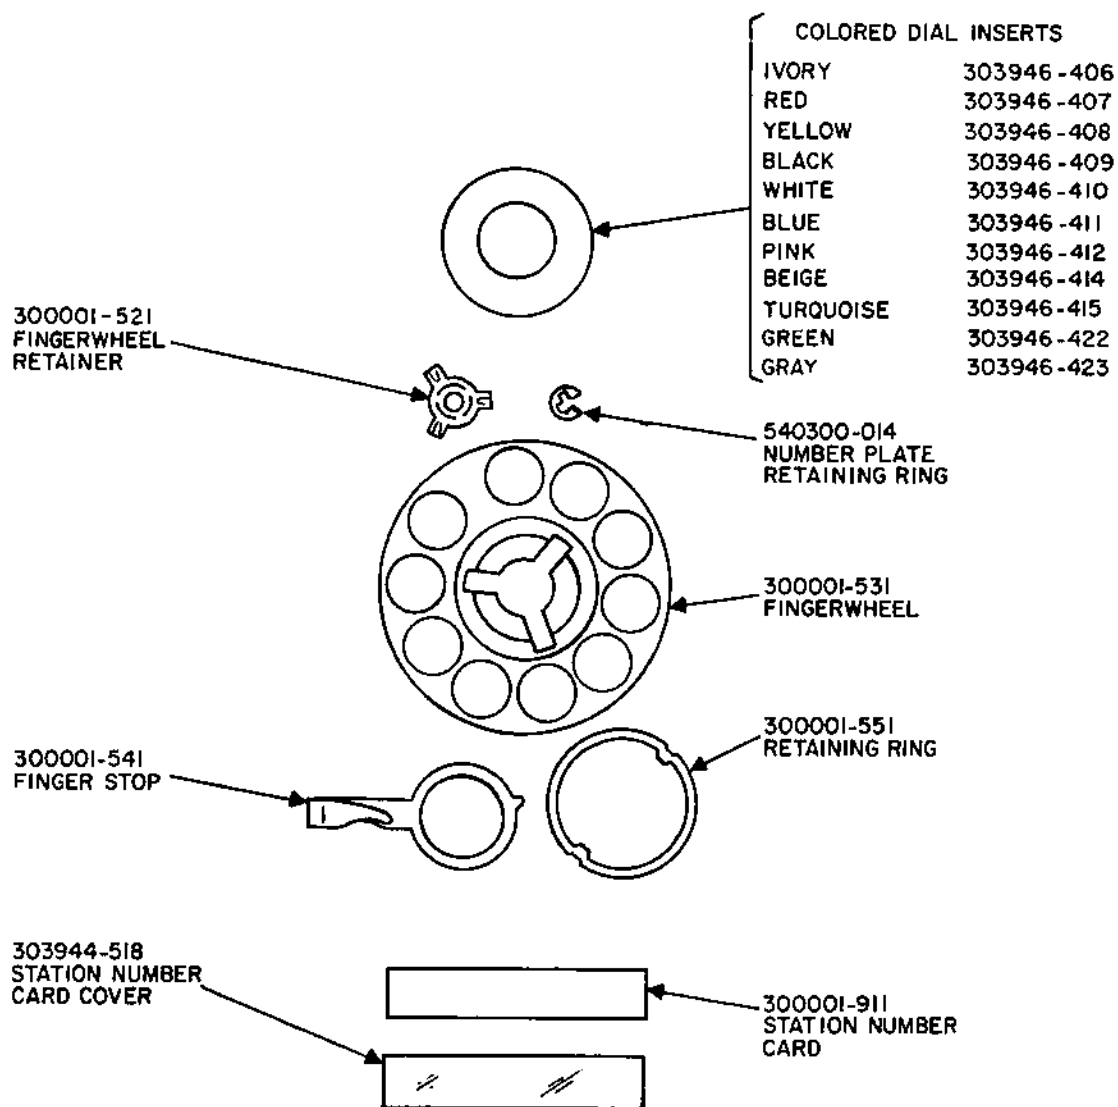

Figure 9. Stromberg-Carlson Number 300001-531 Polycarbonate Fingerwheel and Assembly.
3.09 The Stromberg-Carlson number 300001-531 is the 2-3/8 inch fingerwheel molded from clear polycarbonate for the S-C Number 10A dial. This fingerwheel is used on the miniature dial only. The fingerwheel does not contain a number card but in its place is a colored dial insert. The telephone number is located above the dial in the handset housing. See Figure 9 for complete color listing for the dial inserts and part listings.